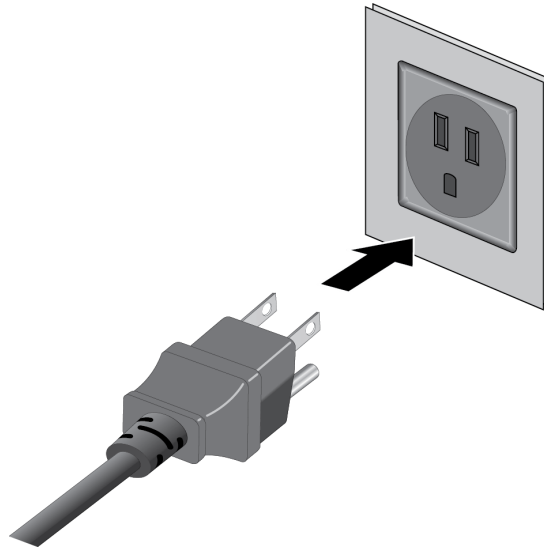

Figure 42. Connecting the Power Cords to an AC Power Source
5. Connect the power cords to an appropriate AC power source. Refer to Figure 42 on page 94.